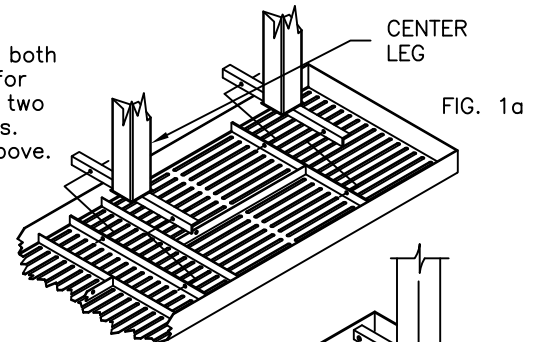
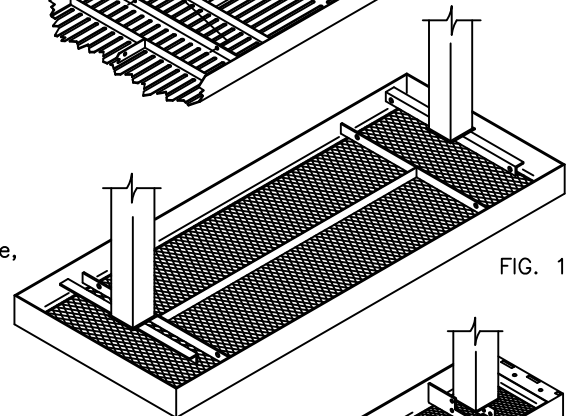

FIG. 1a
FIG. 1
Invert the top (A-) or seat (B-) upside down on a flat surface. Attach both of the (C-) to the outside of the top's mounting brackets, see FIG. 1 for tables or FIG. 2 for benches. Use two per each leg, (E) and (G), using two (F) and one (K) per (E). Draw the fasteners to a snug fit with wrenches. NOTE: Bolt center leg (C4 or C6) to (A5) top. Follow steps as stated above. See FIG. 1a.